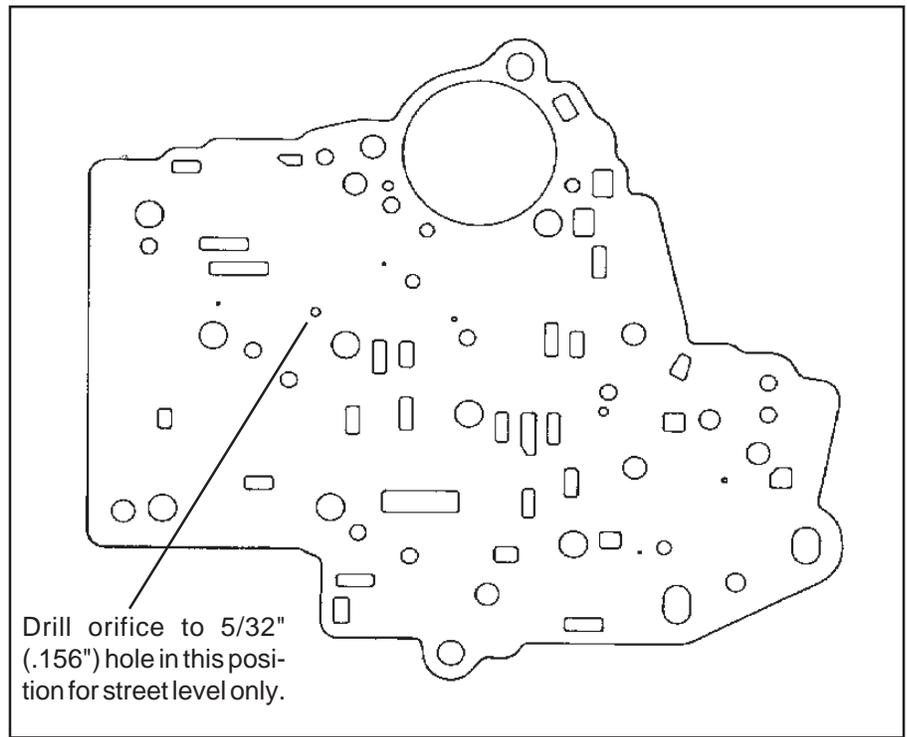

Figure 9
STEP 7. Street level only: Drill the **B&M** Separator Plate orifice indicated in **Figure 9** using the 5/32" (.156") drill supplied in kit. After drilling remove burrs from around hole with a flat file or sand paper.